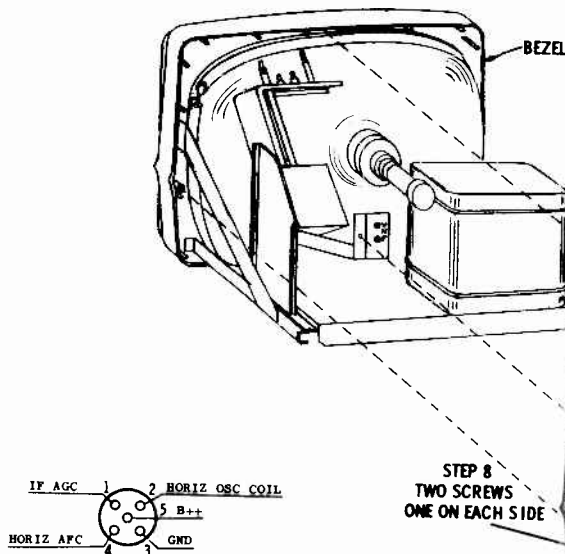

FIGURE 2.
2. Using a piece of wire, short SERVICE TEST RECEPTACLE pin #4 labeled "HORIZ AFC" to ground. See Figure 2 for test point pins.